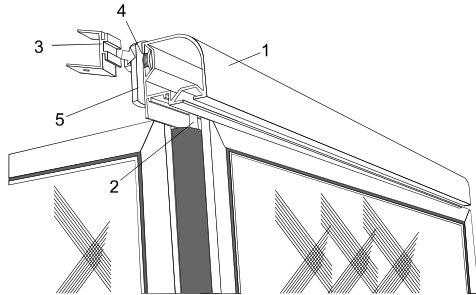

Fig. 10
1. Install front top extrusion (1) onto top of front screen panels (2) (see Fig. 10).